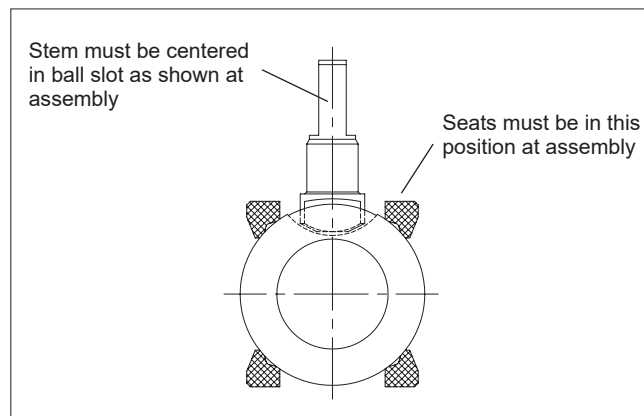

Figure 2. Proper Seat and Ball Orientation
3. Carefully clean and polish the ball (3) sealing surface: It should be free of all scratches and grooves.
5. With the body cap side facing up, slide one valve seat (7) sideways into the body (1) to below the stem bore, and tilt it into place so that the proper surface (see **Figure 2**) will be adjacent to the ball (3), being careful not to cut or scratch the seat.
11. Place a bonnet stud nut (18) on each bonnet stud (14) and tighten nuts alternately so that the compression plate (20) remains parallel with the body bonnet. Tighten the bonnet stud nuts "finger-tight", then tighten an additional ¼ turn.
12. Insert internal grounding spring (36) into hole at the bottom of the stem (5). Insert the ball (3) rotating it onto the stem (5) in the closed position. If necessary, turn the stem blade to align with the ball slot. Make certain that the stem blade is in the middle of the ball slot; i.e. equal distance from the ends of the slot. Rotate the ball if necessary (see **Figure 2**).
13. Gently place the body gasket (65) into the machined recess of the body (1).
14. Place the second seat (7) on top of the ball (3) with the proper surface adjacent to the ball.